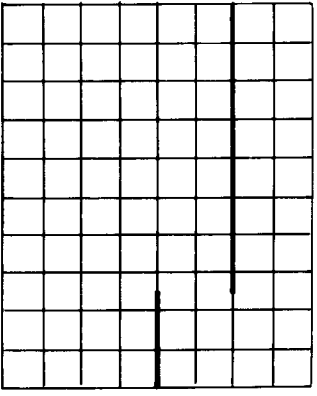

Figure 6b. Delayed Sweep Display
4. Press DLYD **48** and note the intensified portion of the trace is now displayed across the entire CRT (see figure 6b).